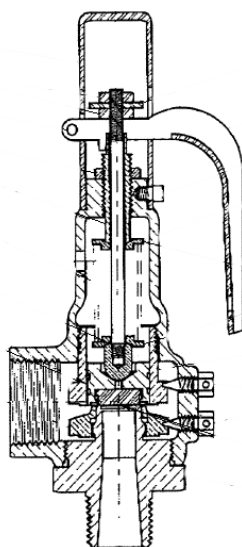

Figure 6-13. LP Relief Valve (Model 19KDDK300)
**6-6.7 RELIEF VALVES.** Relief valves (see Figures 6-13 through 6-16 and Table 6-11) are installed in the HP air, HP oxygen, mixed gas, LP air, LP oxygen, and atmospheric air systems in the SNDLRCS. These valves provide protection to components in the event of system overpressurization due to malfunctioning regulators, valve leakage, temperature changes, or operator error. In order to disassemble, repair, or rebuild relief valves, access to clean room facilities with the appropriate flow/pressure test equipment is required. In the field, replace defective relief valve. Refer to sections 6-6.8.1 and 6-6.8.3 for removal and installation procedures; refer to the component technical manual for repair procedures.